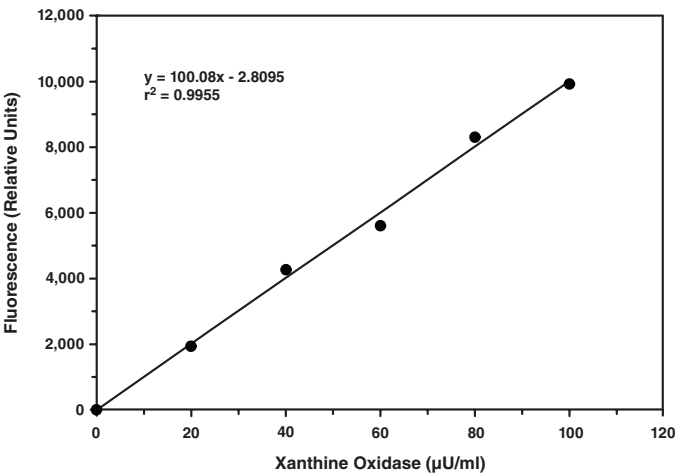

Figure 3. Xanthine Oxidase standard curve
3. Plot the corrected fluorescence values (from step 2 above) of each standard as a function of the final concentration of xanthine oxidase from Table 1. See Figure 3, on page 14, for a typical standard curve.